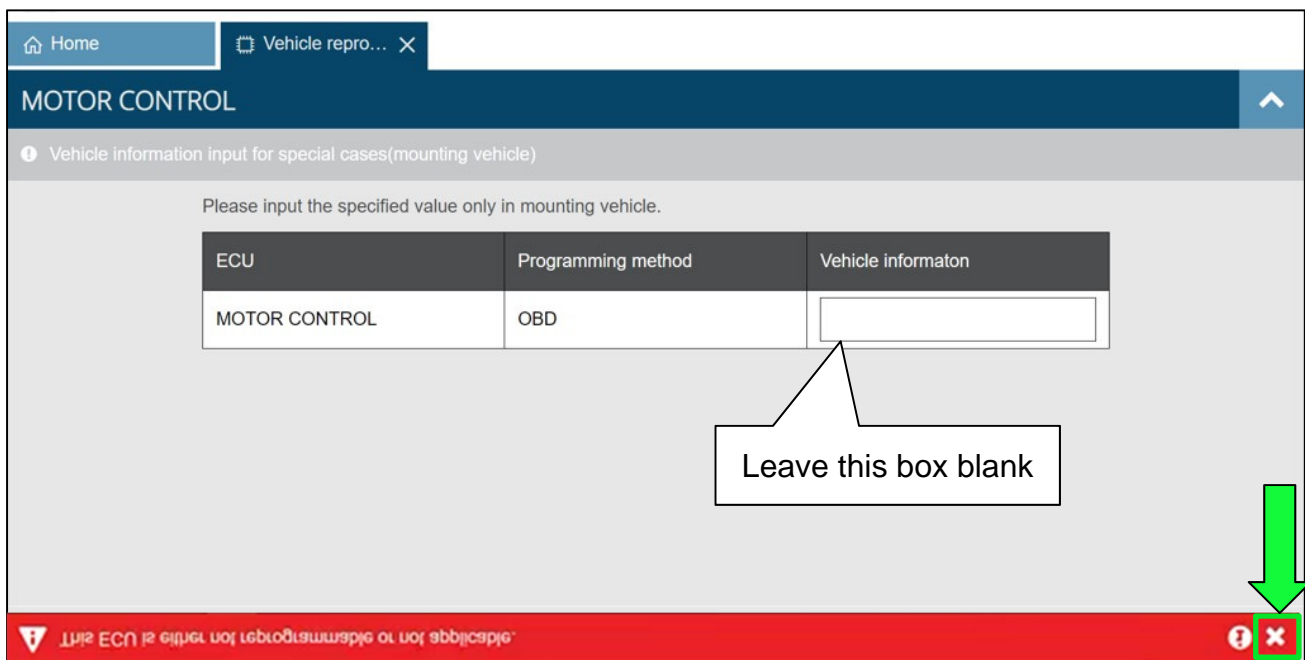

Figure 8
13. Select the “X” as shown in Figure 8.